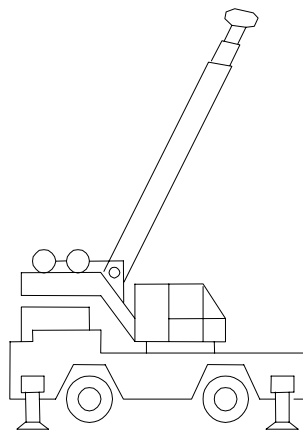

Figure 4
"EXTENSION" is *not* the boom length. Extension is the distance that the boom point travels when moved from the fully retracted to the fully extended position. Please refer to Figures 4 & 5 and the example below for a 100 foot boom.
3. Retract the boom fully (Fig. 4).